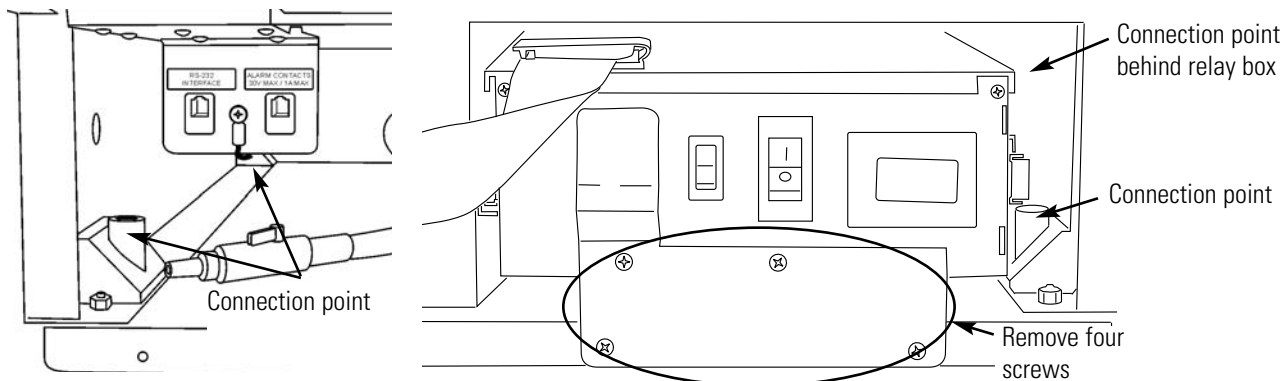

Figure 1-6. Remove Four Screws (middle or top unit)
1. For easier access to stacking connection points on the middle or top units, the four screws on the front of the relay box bracket may be removed (Figure 1-6). The relay box can be pushed carefully back approximately an inch or pulled carefully outward to access the back connection point. The stacking hardware can then be installed as follows. When the stack has been secured, pull the relay box forward and reinstall the four screws.